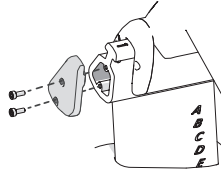

Figure 10
2. Attach the handlebar post end cap ⑨ using two bolts ④ (Figure 10) and fully tighten with the hex key ⑦.